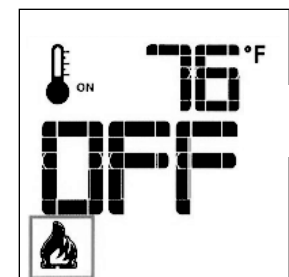

Fig. 15.7. Burner OFF.
- Press the ON/OFF Key. The display will show only the room temperature and icon. At the same time, the Receiver will deactivate the call for heat and the burner will shut down. Fig. 15.7. A single “beep” from the Receiver will confirm reception of the command.